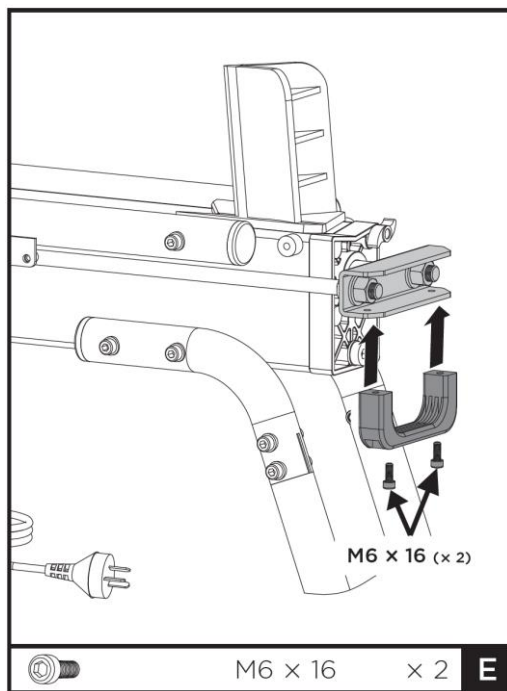

Fig. 5
1. Secure the lifting handle (b) to the U bracket using two M6×16 bolts (E). Refer to Fig. 5.